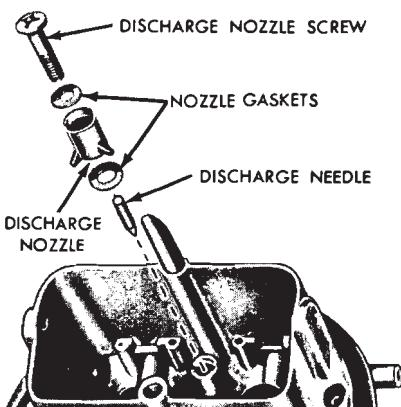

FIG. 18—Accelerating Pump Discharge Assembly
1. Drop the accelerator pump discharge needle into its well (Fig. 18). Lightly seat the needle with a brass drift and a hammer.